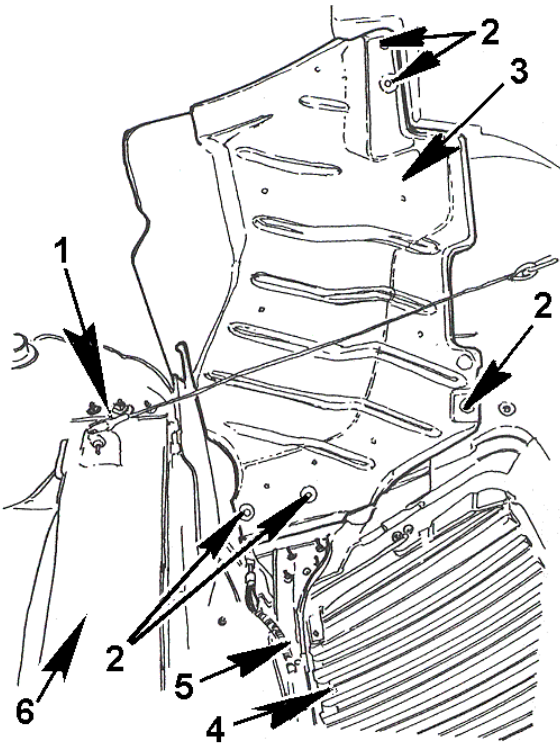

Figure 35 Splash Panel Removal (Passenger Side Shown)
1. Tilt the hood assembly forward and locate the splash panel mounting bolts (Figure 35, Item 2) at the lower section of the splash panel. Loosen and remove the splash panel mounting bolts.